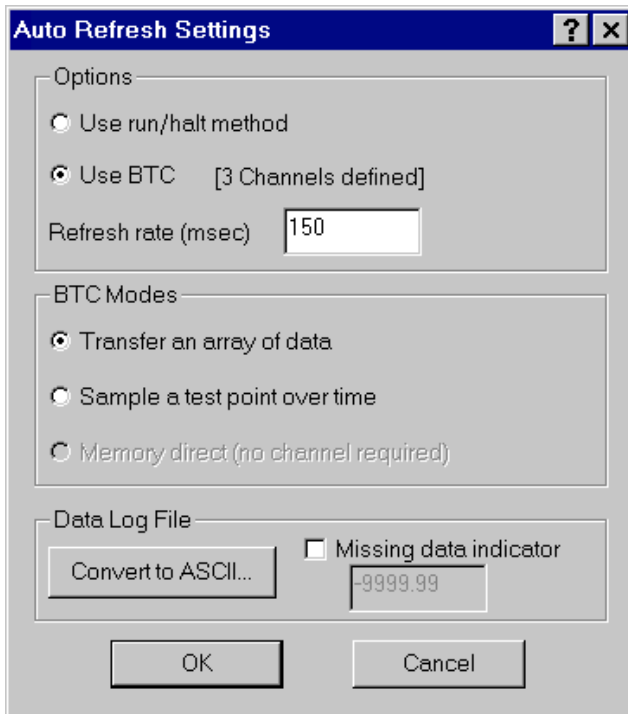

Figure 3-27. Auto Refresh Settings Dialog Box
3. Right-click in the FFT In plot window and select **Auto Refresh Settings** to open the **Auto Refresh Settings** dialog box, shown in Figure 3-27.